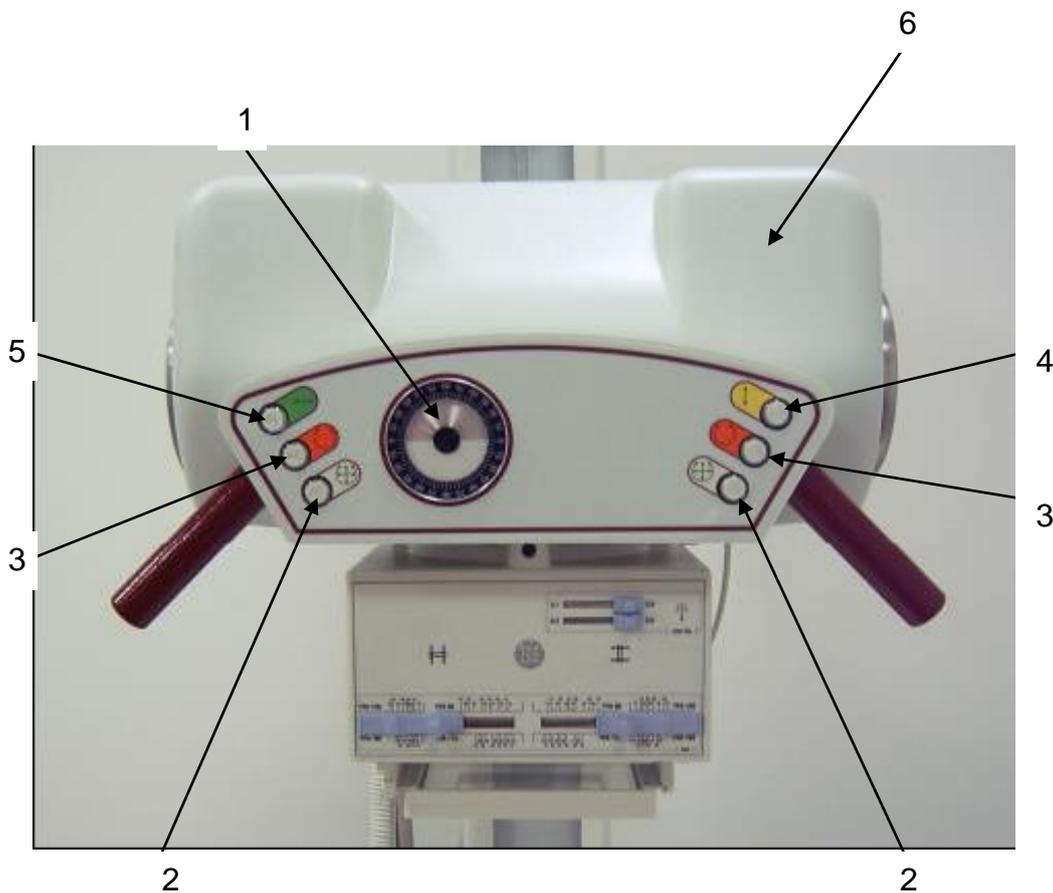
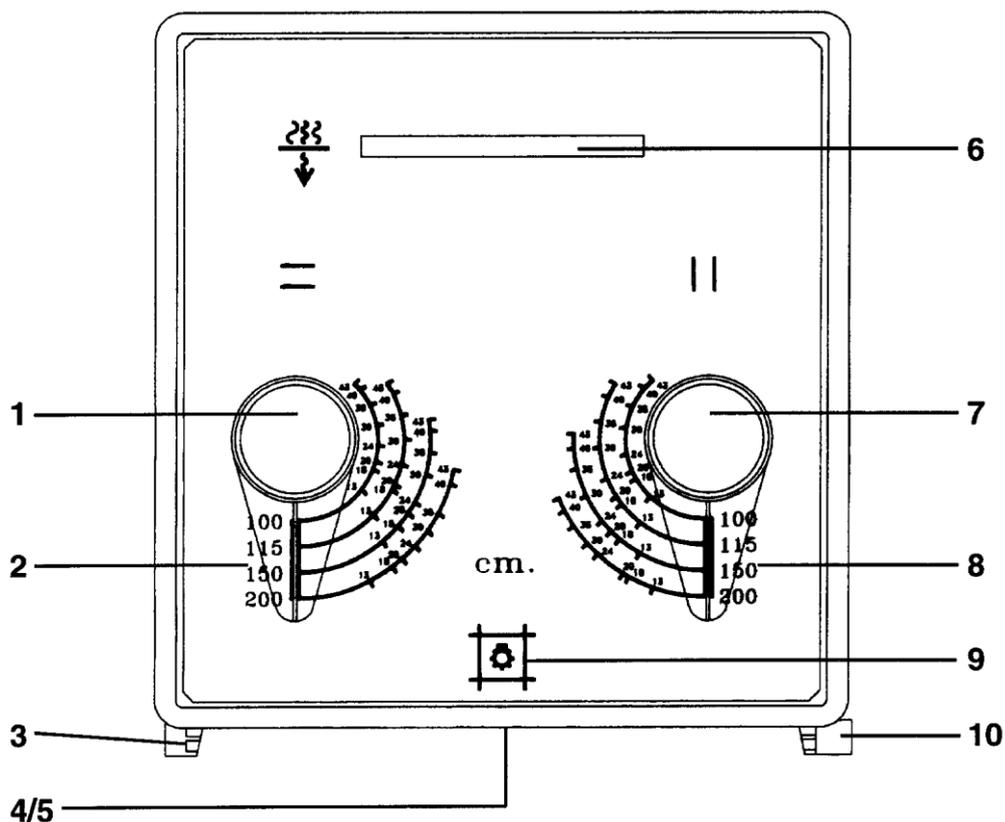

Figure 2-2
Figure 2-3 Collimator
- By pushing button (Fig. 2-2/5) release brake for vertical movement of tube stand.
- Adjust X-ray tube assembly with measuring tape (Fig. 2-3/10) on collimator to the requested focal spot to film distance (FFD).
Before this, release brake for height adjustment on the X-ray tube assembly by pressing the button (fig. 2-2/4).
- Press the collimator light switch (Figure 2-3, item 9,) to turn on the collimator light, and check the opening of the collimator shutters, relative to the used of the exposure medium size.
- Adjust collimator shutters to size of used cassette with collimator adjustment controls.(fig. 2-3/1 and fig. 2-3/7). Several FFD scales (Figure 2-3/2 and fig. 2-3/8) are provided to indicate the correct settings of the collimator adjustment controls. So the light beam and the X-ray field can be limited to the desired of the exposure medium size.
- By pressing the button (Fig. 2-2/3) release brake for rotation of X-ray tube assembly around support arm axis.
- By pressing button (Fig. 2-2/5) release brake for the longitudinal movement of the stand and adjust X-ray tube assembly to the necessary focal spot to film distance (FFD) (only possible with version SH). Observe focus range of the bucky on bucky stand and adjust it with measuring tape on collimator (fig. 2-3/10).
- By pressing button (Fig. 2-3/9) switch on collimator light.
- By pressing button (Fig. 2-2/4) release brake for height adjustment of X-ray tube assembly.
- Adjust X-ray tube assembly to desired height and align it with light of collimator (fig. 2-3/4) towards bucky.
- Release button (Fig. 2-2/4) and fix brake for height adjustment of X-ray tube assembly.
- By pressing button (Fig. 2-3/9) switch on collimator light in order to check opening of collimator shutters to the used of the exposure medium size.
- Adjust collimator shutters to size of used exposure medium with collimator adjustment controls.(fig. 2-3/1 and fig. 2-3/7). Several FFD scales (Figure 2-3/2 and fig. 2-3/8) are provided to indicate the correct settings of the collimator adjustment controls. So the light beam and the X-ray field can be limited to the desired of the exposure medium size.